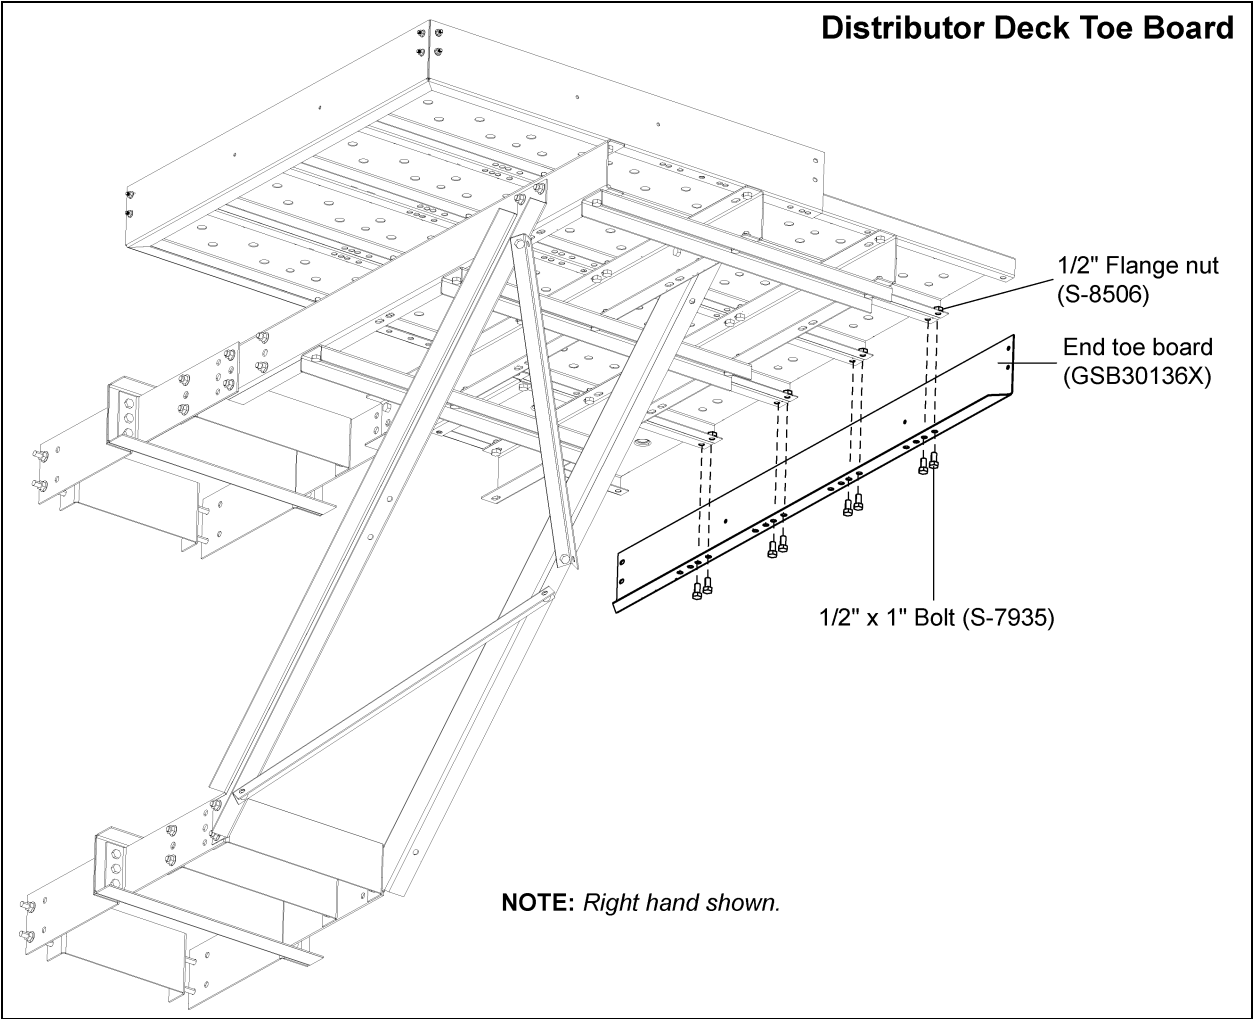

Figure 10J 16" Distributor Platform Toe Board
3. Attach the flange of the toe board short side to the bottom of the 18" decking using two (2) 1/2" x 1" bolt and nuts. Then attach 18" decking to the external platform support using one 1/2" x 1" bolt and nut. *(See Figure 10J on Page 72.)*